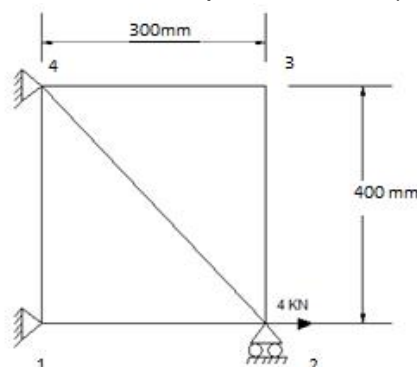

Fig.2
12. For a truss structure show in Fig.2 subjected to a horizontal load of 4kN in positive X direction at node 2. a) Find the nodal displacements b) Stresses in all elements. 10